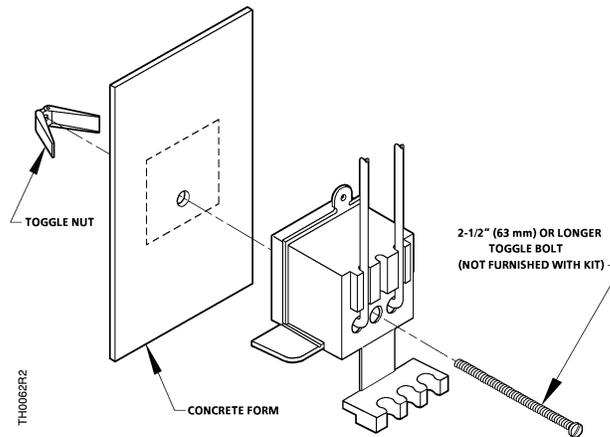

Figure 1. In Concrete Forms Use Wall Box Kit No. 192-478 or 192-498 Only.
- Concrete Walls, See Figure 1.